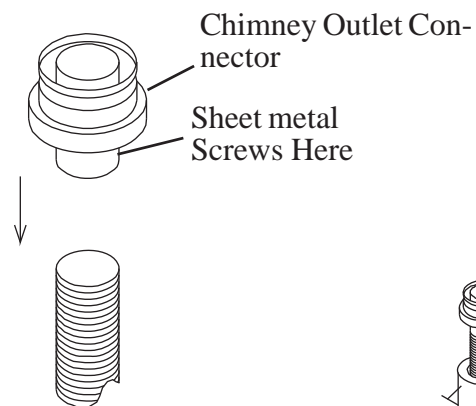

Fig 2
3. Connect the end of the flex pipe section to the underside of the Chimney Outlet Connector you have selected, using three sheet metal screws. Refer to Figure 2.
5. Connect the 4-inch flex liner to the Chimney Outlet Connector using three sheet metal screws. Refer to Figure 2.